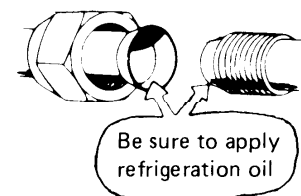

Fig. 26
- Be sure to apply refrigeration oil to the matching surfaces of flare and union before connecting them together. This is effective for reducing gas leaks. Fig. 26